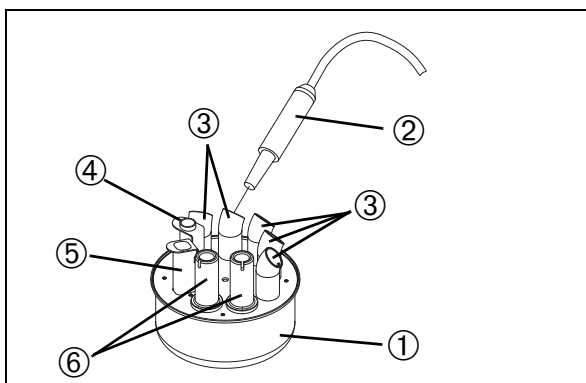

Fig. 70
- Place the cleaning pot ① (Fig. 70) on the tray table.
- Then place all the water-bearing drives (turbine coupling, motor and tartar remover) apart from the multi-way syringes into the L-shaped adapters intended for this purpose ③ (Fig. 70) in the cleaning pot.